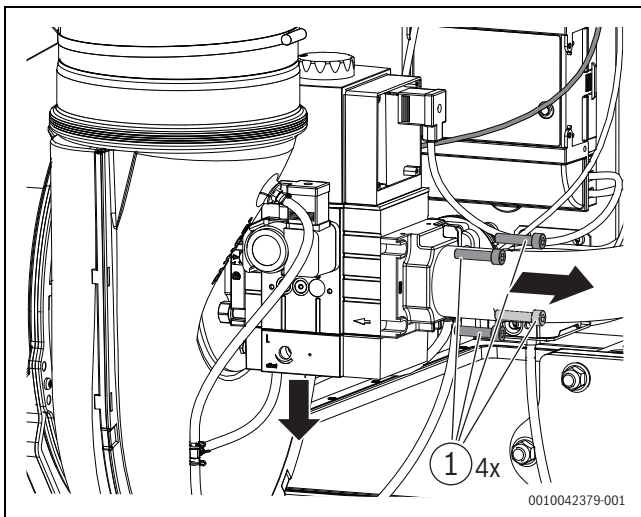

Fig. 48 Unscrew the screws on the air/gas ratio control valve
► Loosen the gas pipe on the gas valve. For this purpose, remove the 4 screws on the flange (→Fig. 48).